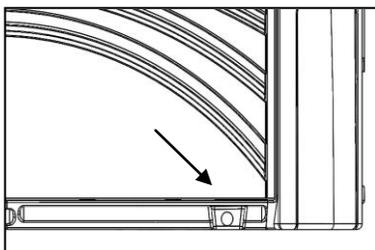

Figure 2
1. Place your spa cover in its proper position on the spa shown in Figure 1. The cover hinge will be parallel to the lower lifter holes shown in Figure 2.
2. Insert the thicker side of the one of BASE TUBES into the bottom of the spa at the location shown in Figure 2.
3. Remove the strap by pinching the two barbs of the strap as indicated (fig 2).